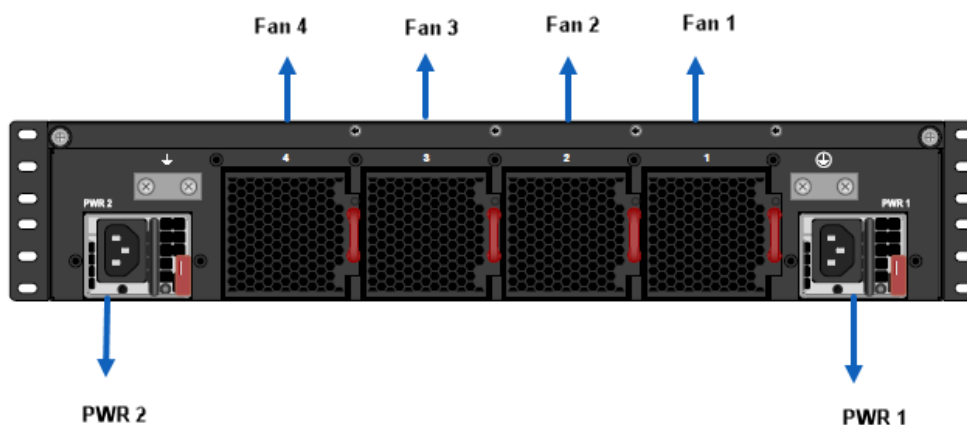

Figure 2 The GigaVUE-TA200E Chassis Rear View
- Figure 2 The GigaVUE-TA200E Chassis Rear View shows the fan modules and power supply units at the rear of the GigaVUE-TA200E chassis. For details, refer to Chassis Cooling.